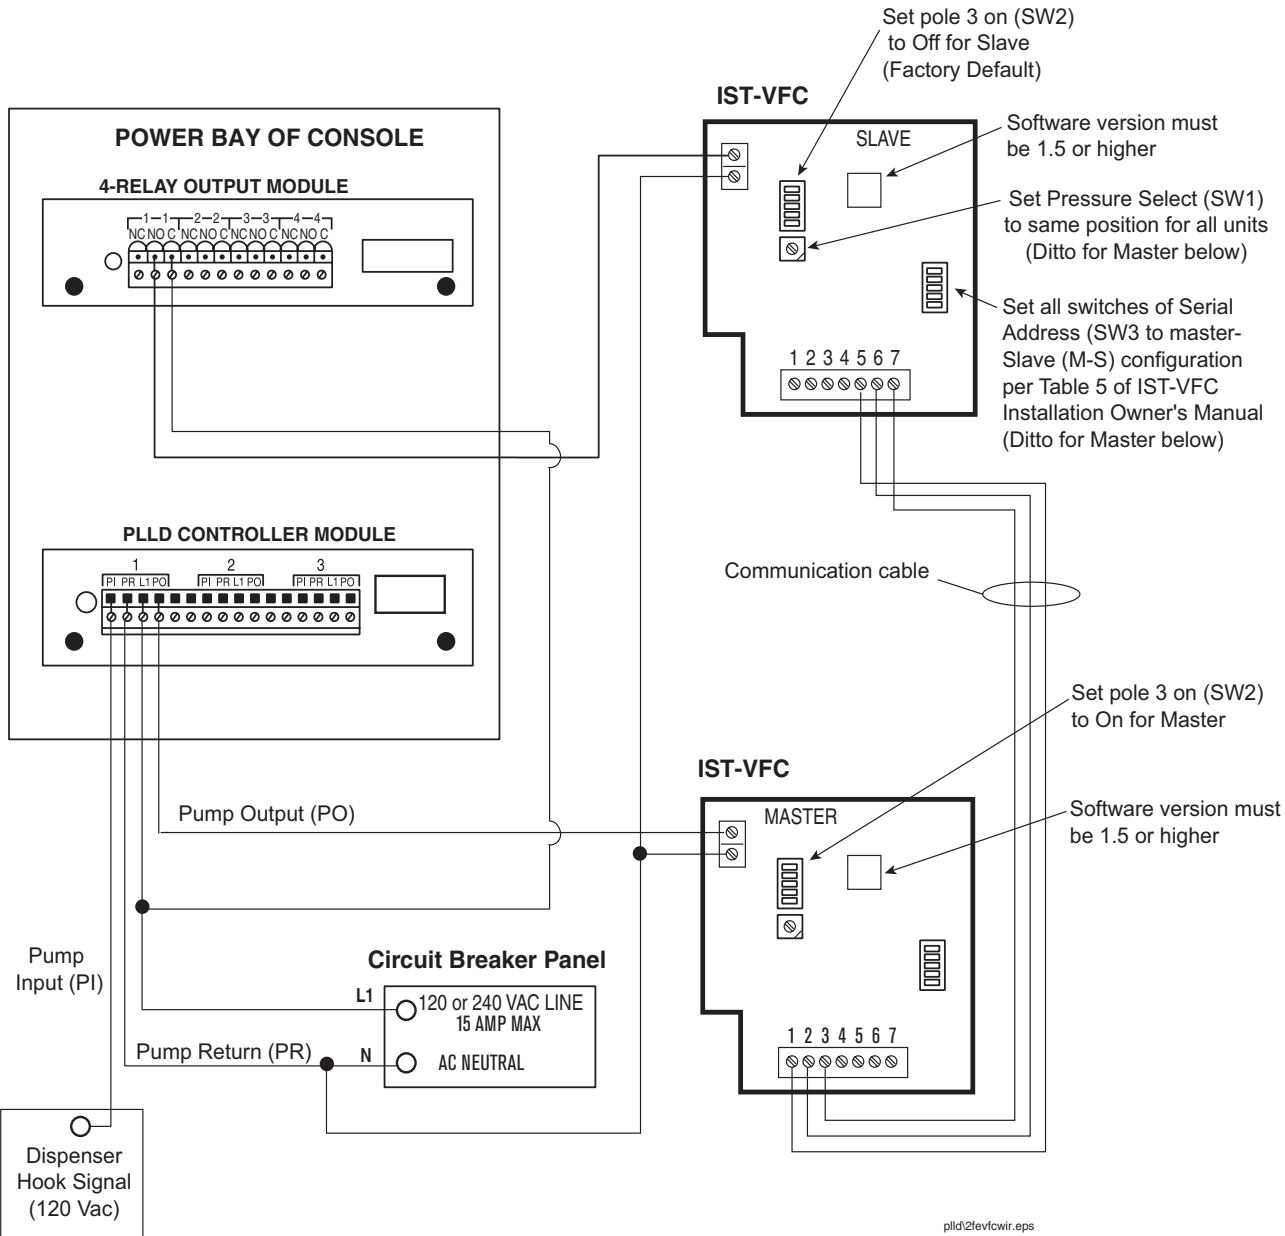
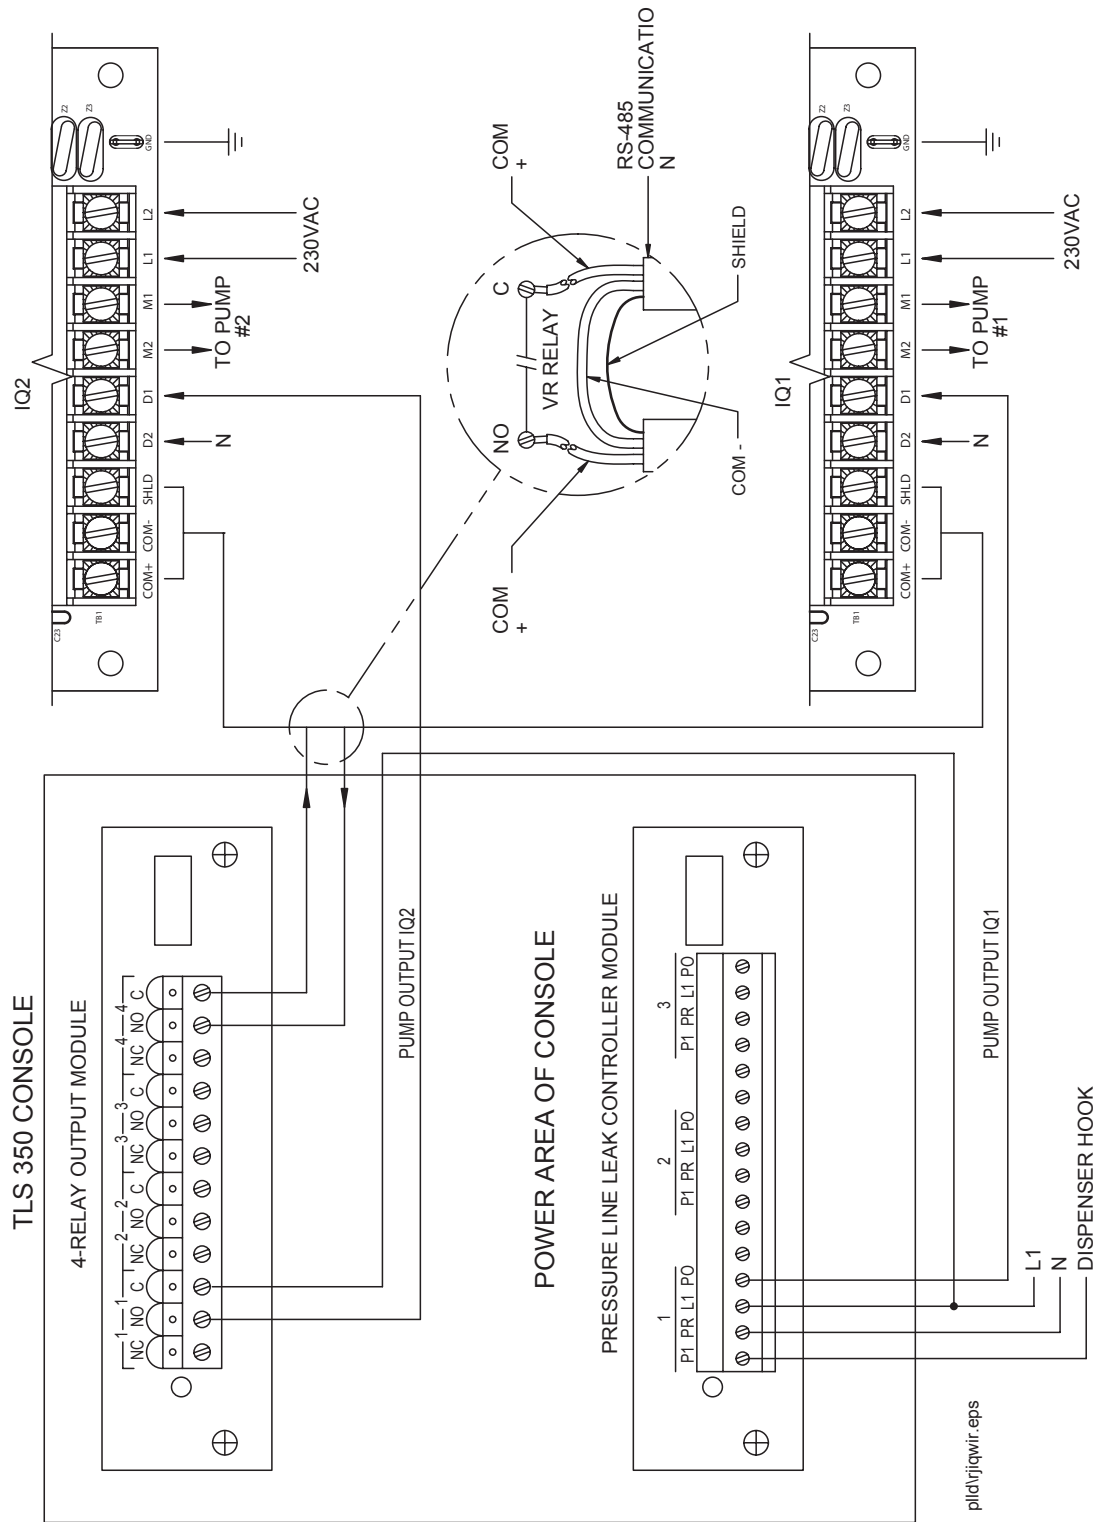

Figure 24. Manifolded product lines - dual FE Petro IST-VFC controllers (requires TLS software version 22 or higher)
Figure 25. Manifolded product lines - dual Red Jacket IQ controllers
- Manifolded tanks (ref. Figure 22, Figure 24, and Figure 25)